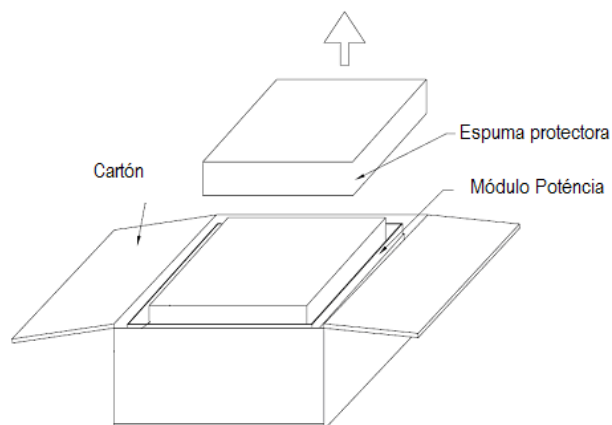

Fig. 16. Retirar espuma protectora
3. Remove the foam cover (See Fig. 16)